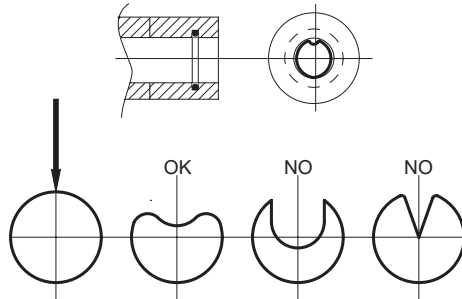

Fig. 9.4
- 9.2.4) First put the O-ring back in its seat and then the seal ring pos. 23 making it adhere perfectly to the O-ring using a blunt tool. To make it easier to insert the ring, follow the instructions in fig.9.4.
9.3.11) First put the O-ring back in its seat and then the seal ring pos. 23 making it adhere perfectly to the O-ring using a blunt tool. To make it easier to insert the ring, follow the instructions in fig.9.4.